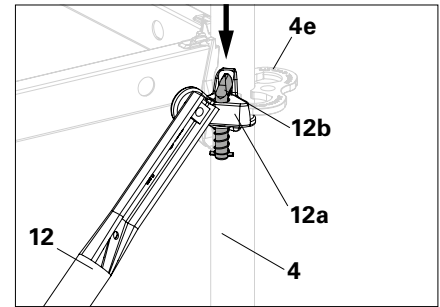

Fig. A2.20b
2. Push bolt (**12b**) into the hole (**4d**) until it fully engages. → Node Brace UBK (**12**) is positioned at the top. (Fig. A2.20b)